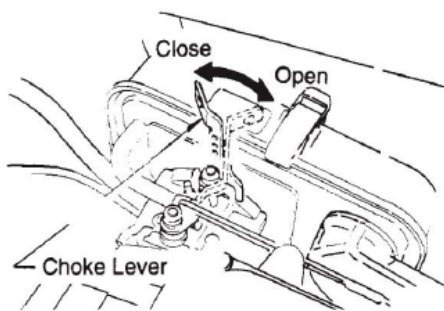

Figure 7 Choke Lever
3. Close the choke lever (Figure 7) and move the throttle lever to the “Full Open” position. Turning the choke lever 90 degrees clockwise closes the choke. In cold weather, start the unit with choke fully closed. In warm weather or when the engine is warm, the unit can be started with choke halfway or completely open.
5. If engine fails to start, move the choke lever (Figure 7) to the half open position to avoid flooding.